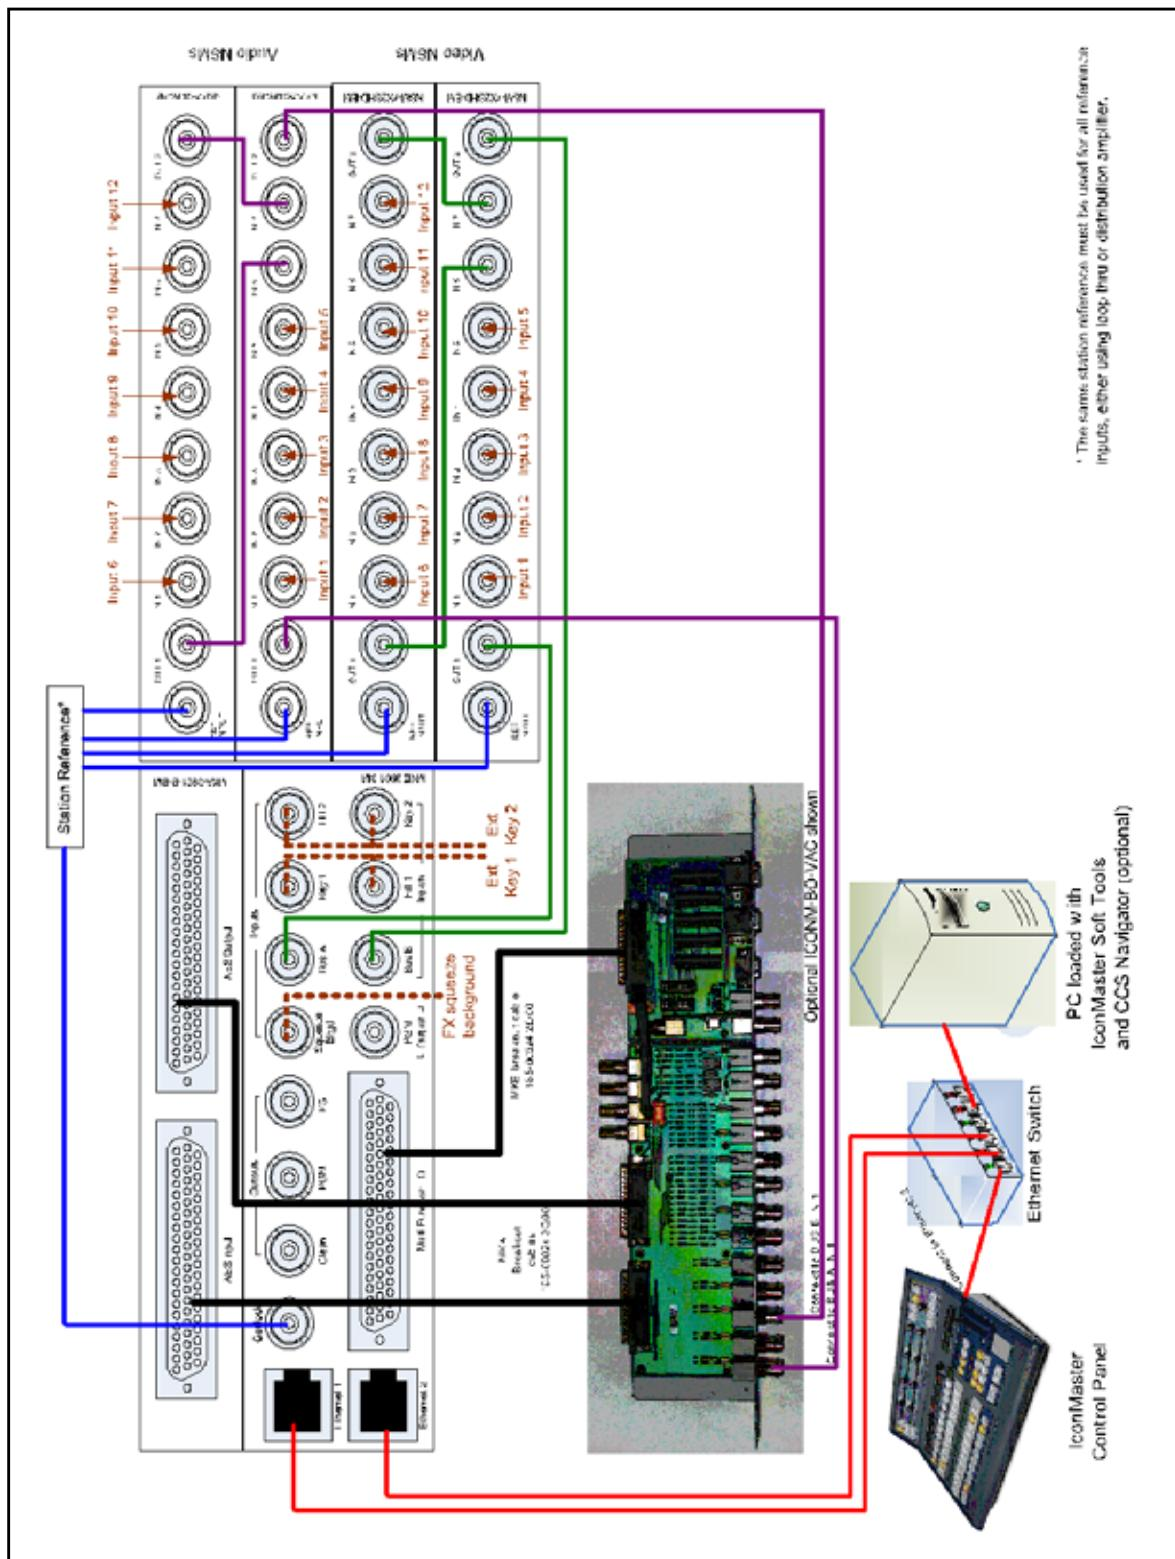

Figure 4-6 IconMaster System with Internal (Single Channel) Audio and Video NSM Internal Routers and Optional ICONM-BO-VAC Module
This section describes the connections that are required in a typical configurations involving an IconMaster system, with single channel audio and video NSM router modules and an optional breakout module. You can place the NSM modules anywhere in the same NEO frame as the IconMaster system. Figure 4-6 on page 68 shows a detailed illustration of this process.
- 1 Connect your composite station reference to the **Ref Inputs** and **Genlock** connection as shown in Figure 4-6.